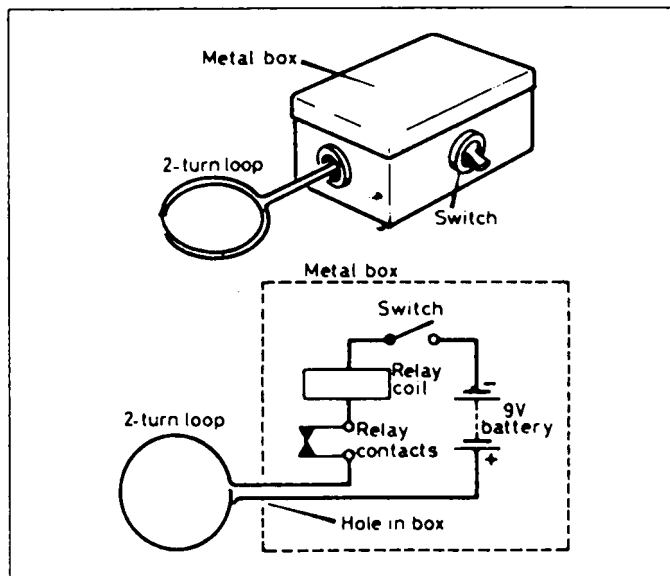

Figure 2 The current path is interrupted when relay is energised as shown above
This is a simple piece of test gear that will increase your knowledge and understanding of resonance. You can use it to estimate the resonant frequency of most of the inductor/capacitor (LC) tuned circuits that you build. The circuit is shown in **Figure 2**. It operates around a relay. Any relay that operates from a 6 V to 9 V source and has contacts which are normally closed (i.e. closed when the battery is not connected). Fit the relay, a toggle switch and the battery in a metal box, and connected up as shown in the diagram. Some foam rubber inside the box may help to reduce the escaping noise of the relay. A small hole in the side of the box enables the 2-turn loop to emerge. This should be about 40 mm diameter, made with insulated wire. Switch on; there should be a loud buzzing noise from the relay. If not, you have probably chosen the wrong contacts on the relay!